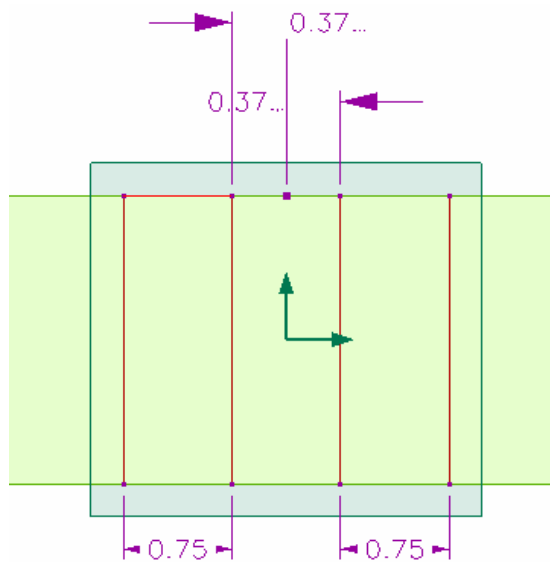

Figure 39. Layout for Cam Arms.
83. Draw two rectangles according to the dimensions in figure 39. Start at the center and draw a line $\frac{3}{8}$ " to one side then draw the rectangle from there.